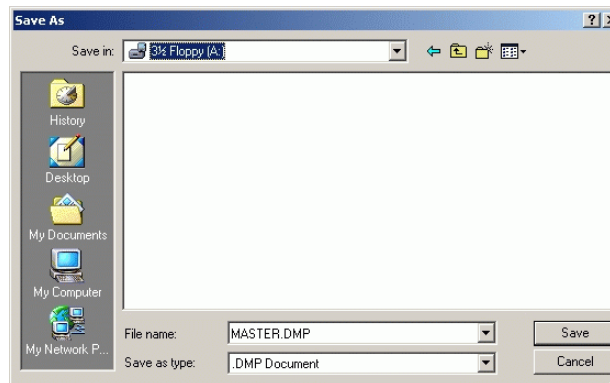

Figure 51: Choosing the location to save the CTP maintenance information
4. When you have accessed the **Save As** dialog box (Figure 51), choose **All Files** from the **Save as type:** field. When naming the file, add a “.dmp” extension to the filename.